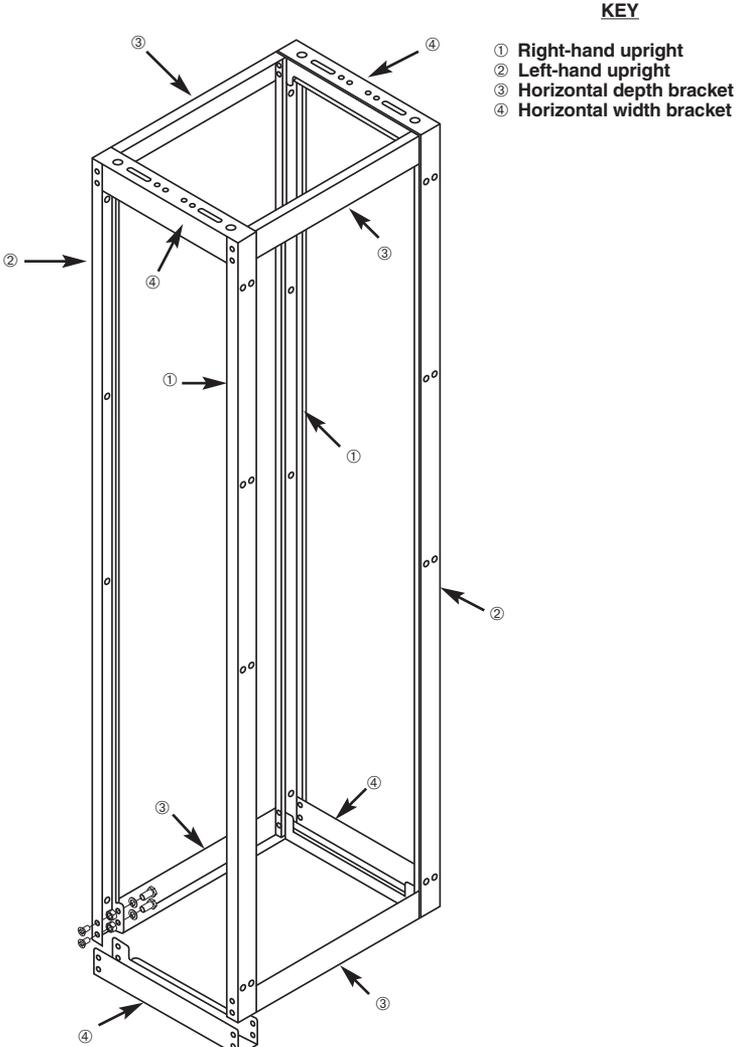

Figure 3-3. Completing the rack assembly.
- D. Align the through holes on the other side of the horizontal width bracket in Step 2B (④ in Figure 3-3) with the through holes in one right upright (① in Figure 3-3).
- E. Repeat steps A–D for the remaining left- and right-hand uprights (① and ② in Figure 3-3), horizontal width bracket (④ in Figure 3-3), and horizontal depth bracket (③ in Figure 3-3).
- A. Stand the bottom corner assembly from Step 1 with the horizontal width and depth brackets' bottom edges flat on the floor. See Figure 3-3.